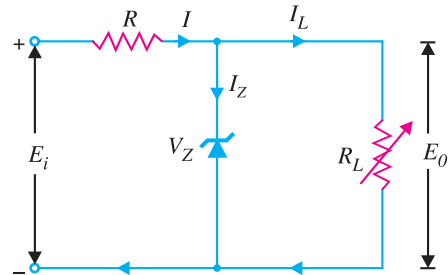

Fig. 6.59
**2. Fixed  $E_i$  and Variable  $R_L$ .** This case is shown in Fig. 6.59. Here the applied voltage ( $E_i$ ) is fixed while load resistance  $R_L$  (and hence load current  $I_L$ ) changes. Note that there is a definite range of  $R_L$  values (and hence  $I_L$  values) which will ensure the zener diode to be in “on” state. Let us calculate that range of values.
\* If you remove the zener in the circuit shown in Fig. 6.59, then voltage  $V$  across the open-circuit is